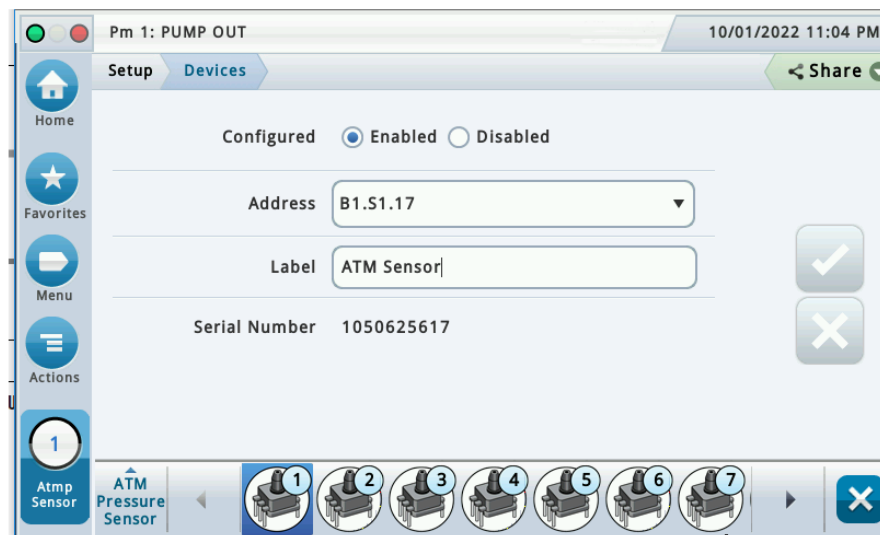

Figure 4. ATM Sensor Setup Screen
1. Touch ATM Pressure Sensor in the Devices list (Figure 3) to display the ATM Sensor setup screen (Figure 4).